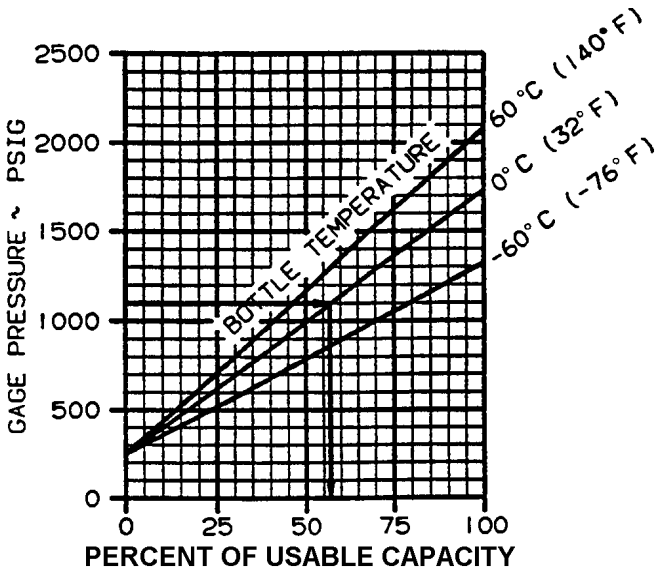

Figure P-1. Percent of Usable Capacity
- c. Determine the percent of usable capacity from Figure P-1 (e.g., 1100 psi at 0 °C = 57%).
(1) Pilot and copilot with masks set at **100%** plus 6 passengers = 10 people using oxygen.